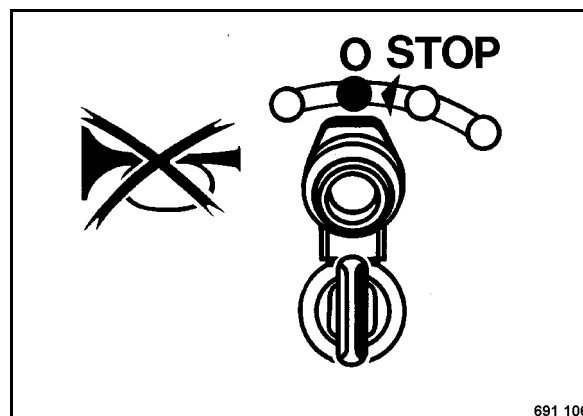

Fig. 38
- Turn the ignition key (Fig. 38) to position "0" and pull it out. The warning buzzer stops.